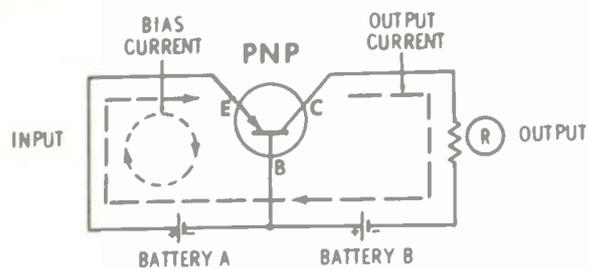

Fig. 3 – Common-base amplifier circuit.
The basic action of the common-base connection is shown in Fig. 3. Note that the base is common to both emitter and collector circuits. Battery A supplies the necessary current to bias the emitter in the forward direction. The other voltage source, Battery B, provides the reverse bias required by the collector. Bias current, indicated by the light arrows, is a relatively small circulation between emitter and base. Tracing the larger circulation of collector current, we find that it also flows in the input circuit, traveling from collector, through the two batteries, to the emitter. Thus, it may be seen that output current also flows in the input. If bias current at the base were made to increase, over-all current would also rise. The load resistor (R) in the collector circuit displays an increasing voltage drop as added current flows through it.
This is the final arrangement in the three basic amplifier connections. The input signal (see Fig. 3) is applied between base and collector. As the signal grows increasingly negative, current flow in the output (emitter-collector) also rises. The direction of the signal at the output is the same as for the input which accounts for the lack of phase reversal in the common-collector amplifier.